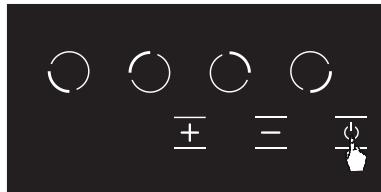

Figure 11
1. You may turn the stove off by pressing the **⊕** button. (See Fig. 11)